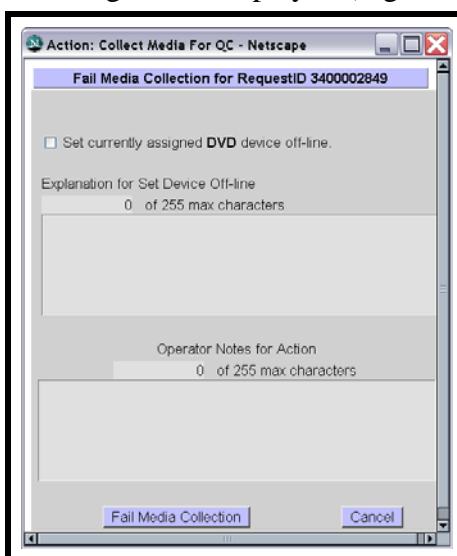

Figure 15.12-7. Fail Media Collection Page
The **Fail Media Collection** page (Figure 15.12-7) provides the full-capability operator with a means of indicating that the media collection or dismount failed. The full-capability operator has the option of annotating the action.
- A **Fail Media Collection** dialog box is displayed (Figure 15.12-7).